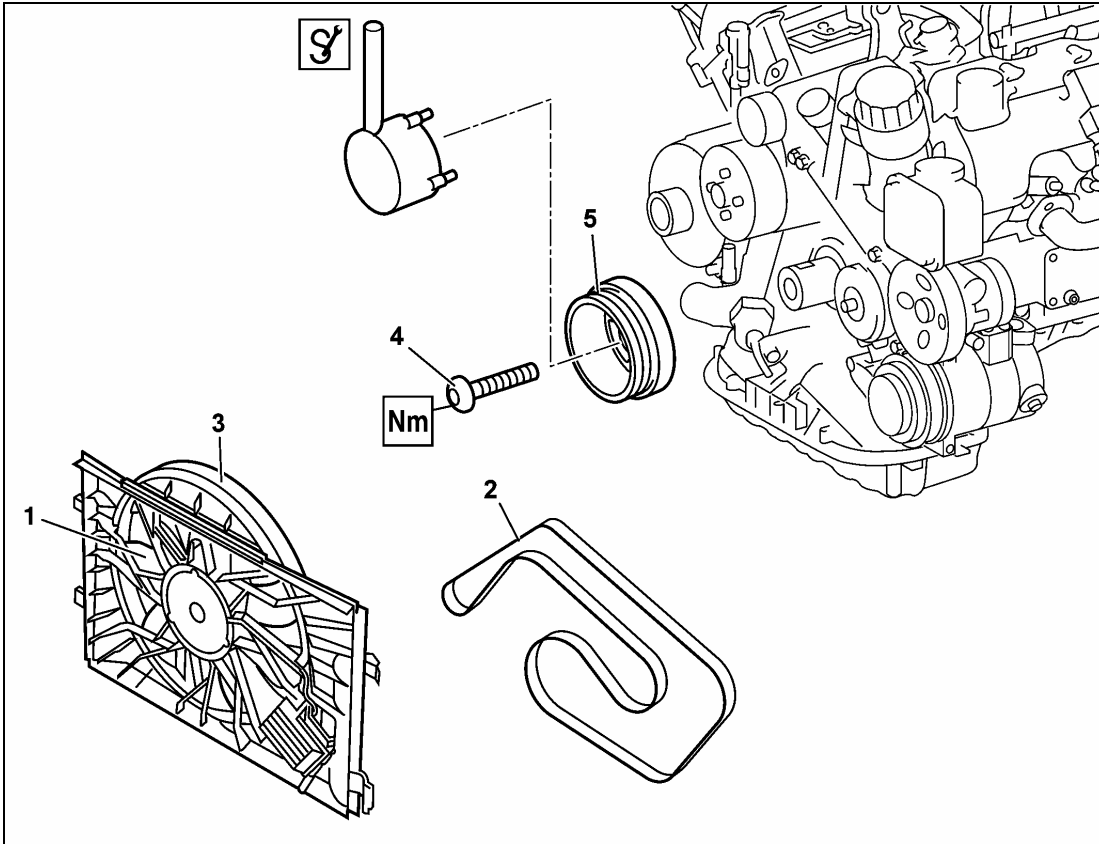

Figure 3
2. Remove electric fan (1, Figure 3) and fan shroud (3):
- Models 208: remove clips securing fan to radiator, disconnect fan harness connector, remove fan (1) and shroud (3) as an assembly.
3. Remove engine belt (2):
Do not counter hold crankshaft at ring gear to remove harmonic balancer pulley bolt (4, Figure 3). Counter hold crankshaft **only** at spokes of the harmonic damper pulley due to high bolt (4) torque.
- Remove harmonic damper pulley bolt (4)
5. Remove harmonic balance pulley (5, Figure 3).